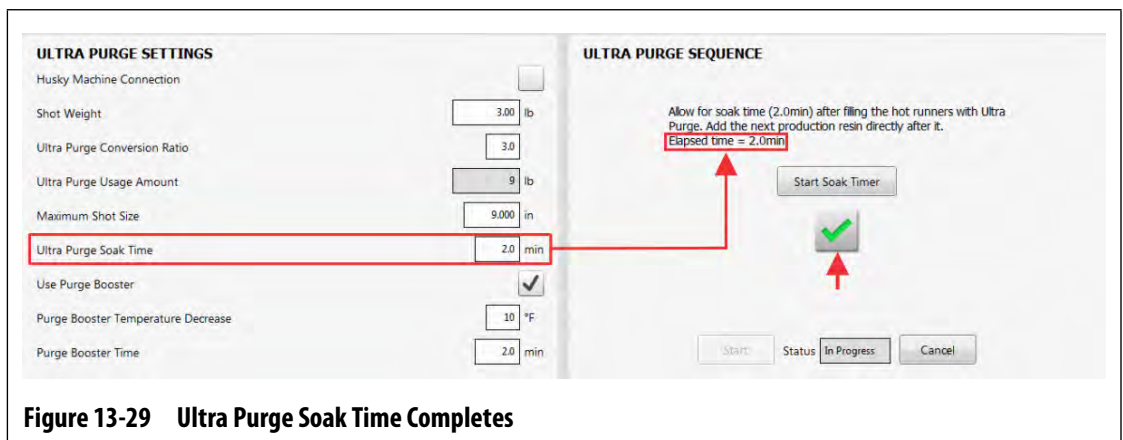

Figure 13-29 Ultra Purge Soak Time Completes
15. When the soak time has completed, touch the check mark button to continue (Figure 13-29).